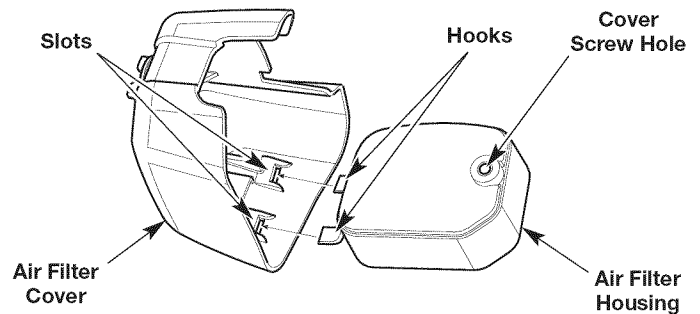

Fig. 18
6. Reinstall the air filter inside the air filter housing (Fig. 18).
7. Insert the hooks on the air filter housing into the slots on the air filter cover (Fig. 18).
8. Swing the air filter cover to the right and align the cover screw with the cover screw hole (Fig. 18). Tighten the cover screw to secure the air filter cover.